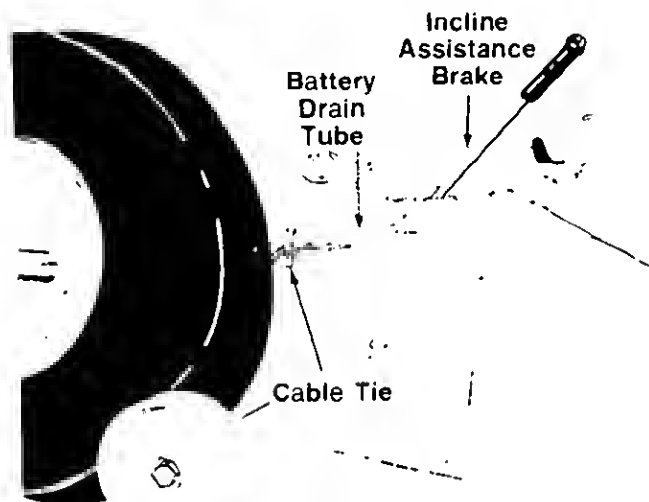

FIGURE 10.
11. Route the battery drain tube toward the back of the unit, over the shaft on the incline assistance brake and inside the deck links. See figure 10.
12. Secure drain tube to hole in the side of frame with cable tie as shown in figure 10. Trim excess end of cable tie. Be certain tube is routed away from wheel rim.